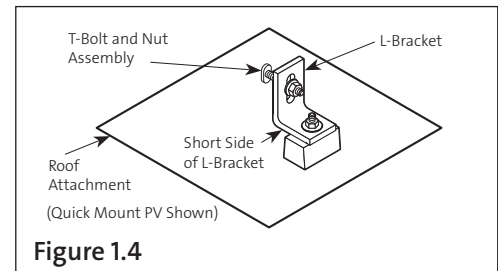

Figure 1.4
- 1.4. Attach short side of pre-assembled L-Bracket to Roof Attachment ④ per attachment instruction manual. Quick Mount PV shown in **Figure 1.4**.